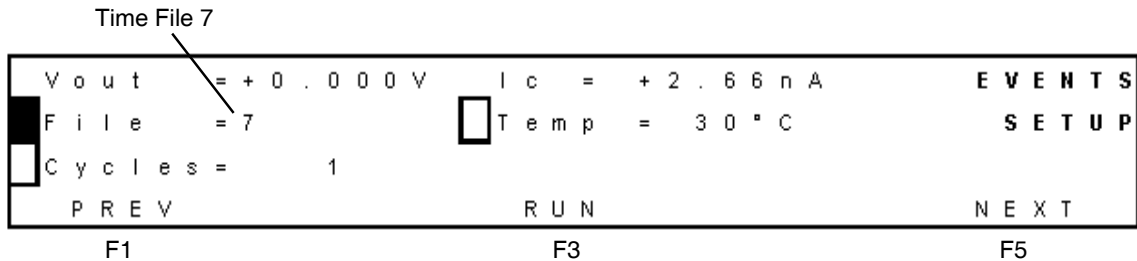

Figure 3-48 Events Setup Screen
3. Select **F4 EVENTS**. The Events Setup screen appears (Figure 3-48).